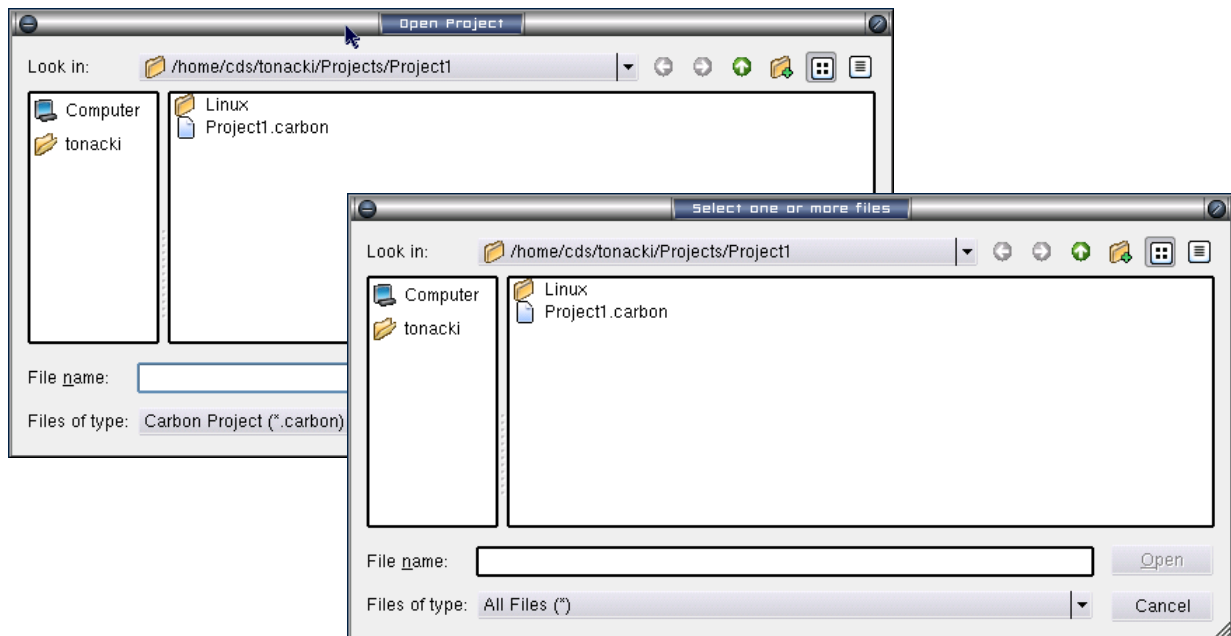

Figure 2-4 Open Project and Open File Dialog Boxes
1. Select **File > Open > Project** to display the *Open Project* dialog, or select **File > Open > File** to display the *Open File* dialog (Figure 2-4).